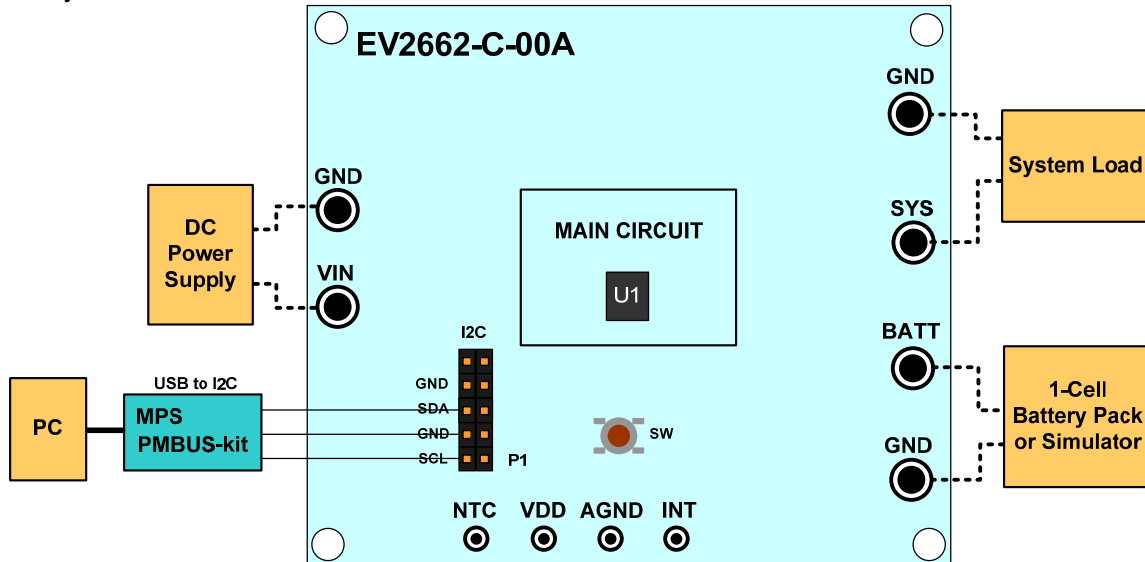

Figure 6: Test Setup for MP2662
4) Original Test Setup for MP2662 in Figure6